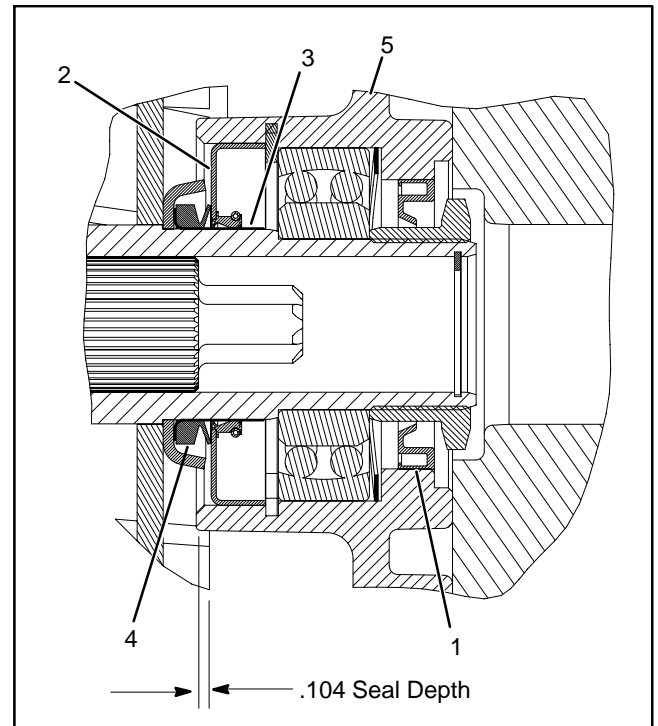

Figure 22
2. Remove the retaining ring (14) securing the bearing in the side plate. Remove the bearing (12). Inspect the bearing to insure that it spins freely and has minimal axial play. The bearing balls must be free of deformation and scoring. Replace the bearing if necessary.
3. Remove the wave washer (15).
5. Insert the wave washer (15) into the side plate.
6. Pack the bearing (12) with Mobil High Temperature HP or equivalent grease. Insert the bearing into the side plate against the wave washer.
7. Press the retaining ring (14) into the groove, slightly compressing the bearing and wave washer.
8. Pack the cavity of the inner seal (13) with Mobil High Temperature HP or equivalent grease.
9. Using inner grease seal installation washer (Toro Part Number 104-0532) press the inner seal (13) into the side plate until the washer is flush with the outer edge of the side plate bore. Remove the washer. When properly installed, the seal should be positioned .104 in. below the inner edge of the side plate bore.
10. Press the outer seal (9) into the side plate until it is flush with the the outer edge of the side plate bore.
**IMPORTANT: The outer grease seal (9) should be installed so the lip is facing out. This helps keep contamination from entering, and allows grease to vent or purge out if necessary (Fig. 22).**
11. Fill remaining voids, behind inner grease seal (13) and outer grease seal (9) lips with Mobil High Temperature HP or equivalent grease.
1. Remove the inner grease seal (13) and outer grease seal (9) from the side plate (10).
2. Remove the bearing (12). Inspect the bearing to insure that it spins freely and has minimal axial play. The bearing balls must be free of deformation and scoring. Replace the bearing if necessary.
3. Remove the O-ring (11) from the groove in the side plate bore.
5. Insert the O-ring (11) into the groove in the side plate. Apply a light coating of grease onto the O-ring, after it is installed.
6. Pack the bearing (12) with Mobil High Temperature HP or equivalent grease. Insert the bearing into the side plate until it is against the bottom of the bore.
7. Pack the cavity of the inner seal (13) with Mobil High Temperature HP or equivalent grease.
8. Using inner grease seal installation washer (Toro Part Number 104-0532) press the inner seal (13) into the side plate until the washer is flush with the outer edge of the side plate bore. Remove the washer. When properly installed, the seal should be positioned .104 in. below the inner edge of the side plate bore.
9. Press the outer seal (9) into the side plate until it is flush with the the outer edge of the side plate bore.
10. Fill remaining voids, behind inner grease seal (13) and outer grease seal (9) lips with Mobil High Temperature HP or equivalent grease.
5. Using an appropriate I.D. tube or sleeve, press the speedi sleeve onto the reel shaft until it bottoms out on the spider cup (Fig. 22).
6. Slide the V-ring onto the reel shaft with the thick shoulder of the V-ring facing inward (Fig. 22).
7. Fill the drive coupling (4) 1/2 to 1/3 full with Mobil High Temperature HP or equivalent grease. Also, coat the outside of the drive coupling with grease.
8. Install the retaining ring (5). Make sure it is seated into the groove.